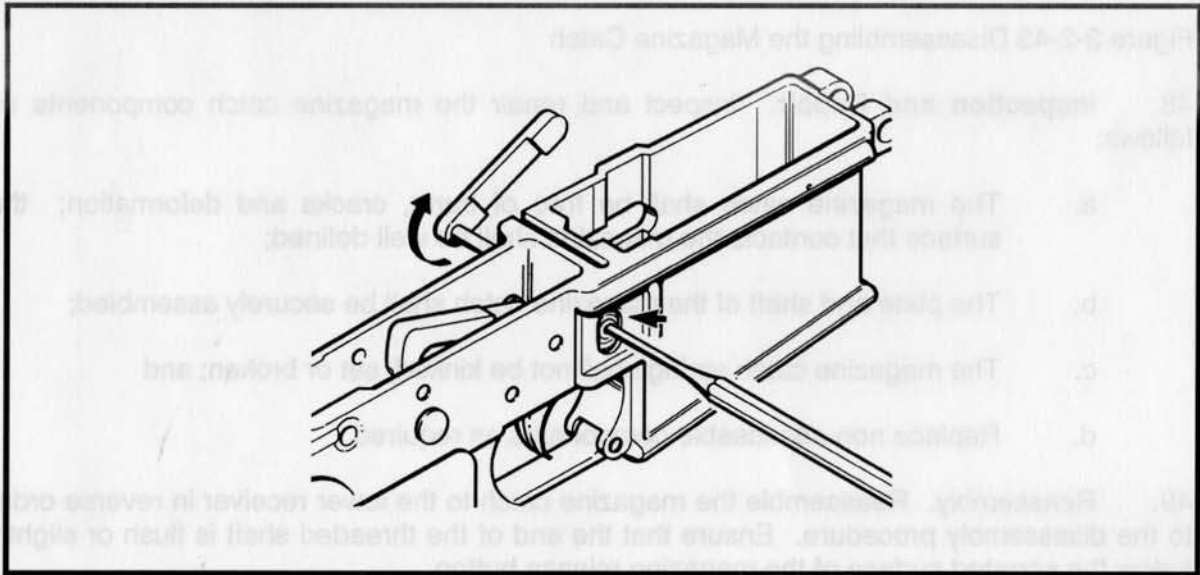

Figure 3-2-42 Unscrewing the Magazine Catch
- a. Push the magazine release button fully into the receiver and unscrew the magazine catch. See Figure 3-2-42;